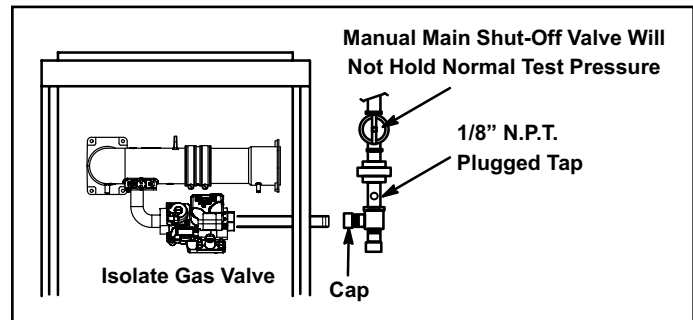

Figure 42.
5. A 1/8" N.P.T. plugged tap or pressure post is located on the gas valve to facilitate test gauge connection. See Figure 42.
When testing pressure of gas lines, gas valve must be disconnected and isolated. See Figure 42. Gas valves can be damaged if subjected to pressures greater than 1/2 psig (3.48 kPa).